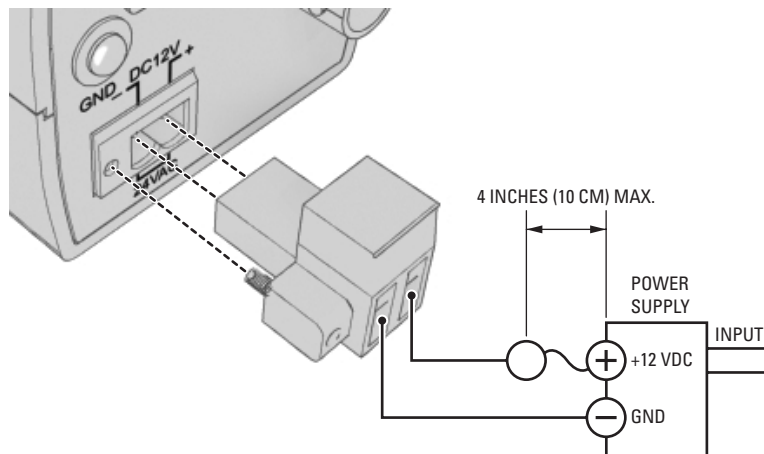

Figure 5. Connecting DC Power
- For safety, include a 1.0 A slow blow fuse when connecting DC power, as shown in Figure 5.
To connect DC power refer to Figure 5, and then complete the following steps: